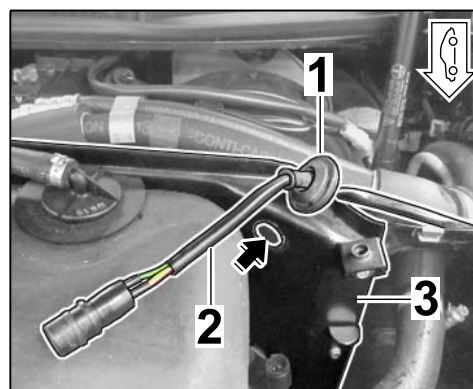

Figure 12
- 3.2.2 Press rubber sleeve ⇒ *Figure 12-1-* out of the cross panel ⇒ *Figure 12-3-* (⇒ *Figure 12-arrow-*).